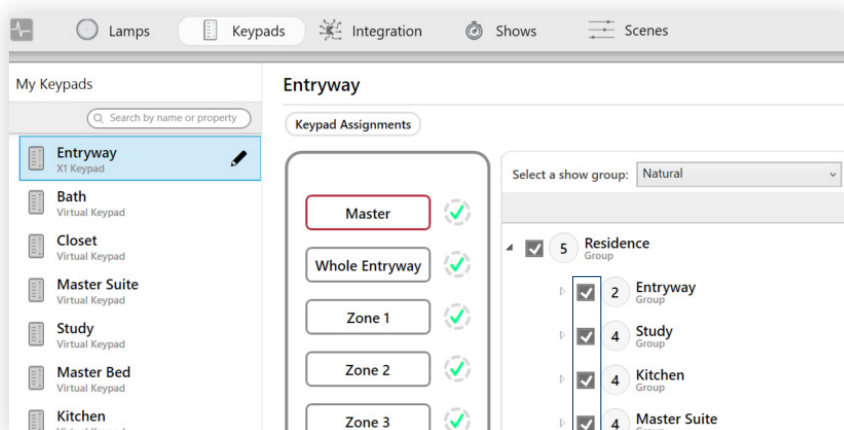

fig. 56
- If you want the button to turn on and off every group in the installation, make sure every group is checked. (Pictured, fig. 56)